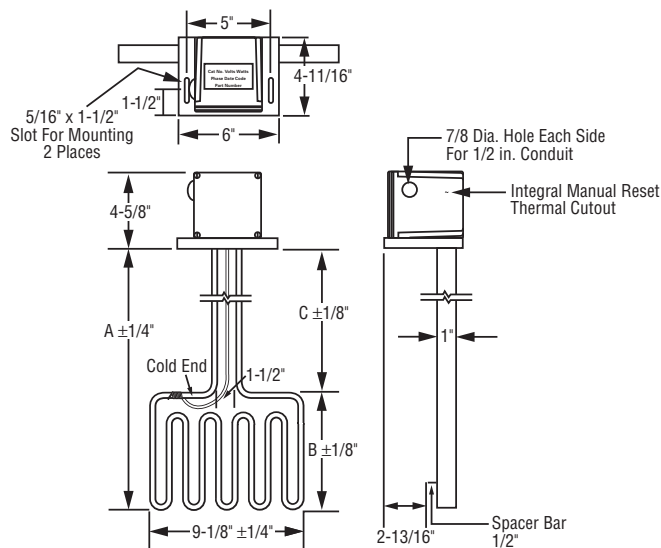

Figure 1
maintain liquid level above heated portion (dimension B of Figure 1) of heater.
2. **Always maintain a minimum of 2"** of solution above the heater portion of the element to prevent exposure of the effective heated length. If the heater is not properly submerged, it may overheat and shorten heater life. *Do not operate heater if dry.* (Note: Heated portion of element is Dimension B of Figure 1).